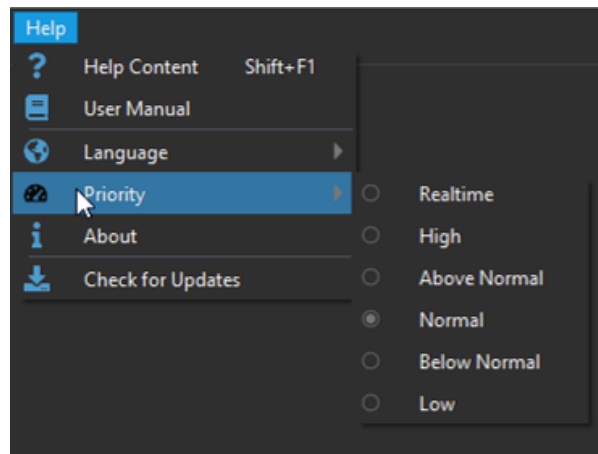

Figure 3.8: Help, Priority
- The **Priority** options (Fig. 3.8) change the priority levels of *Doric Neuroscience Studio* within Windows, which can increase the reliability of the software. While the software is by default at **Normal** priority, a **High** priority will provide the greatest reliability.